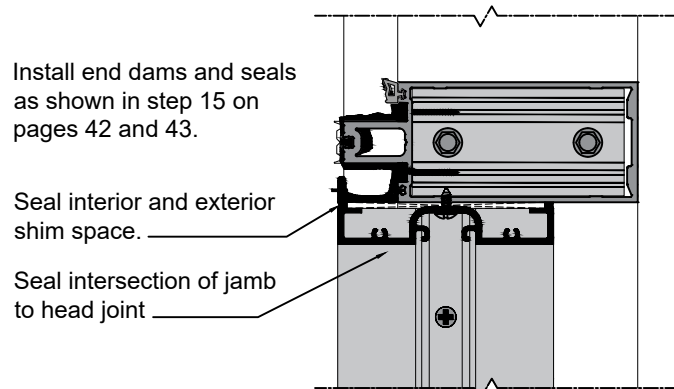

Fig. 58.3
- Seal the top of the jamb subframe as shown in Fig. 58.3.